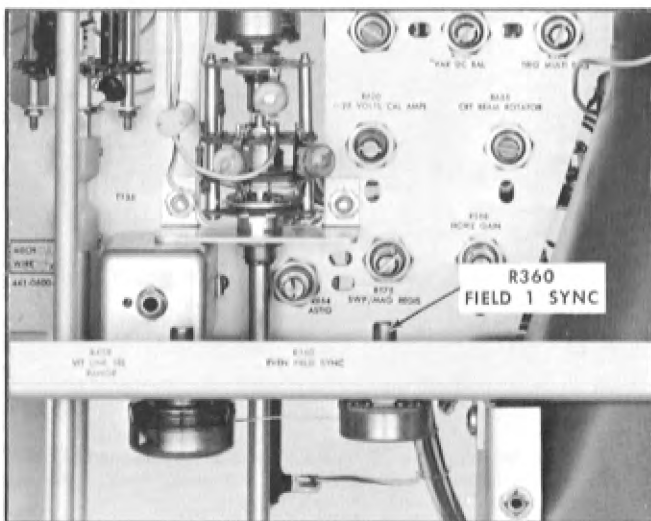

Fig. 6-24. Location of FIELD 1 SYNC adjustment.
h. Adjust by first rotating the FIELD 1 SYNC control (R360; see Fig. 6-24) fully counterclockwise. Then, rotate the control slowly in a clockwise direction until the ramp starts just after the sixth equalizing pulse (see Fig. 6-25A). The sixth equalizing pulse is the last pulse in the equalizing-pulse group following the vertical sync pulses. Fig. 6-25B and 6-25C show two possible displays that can be obtained when the control is incorrectly adjusted.